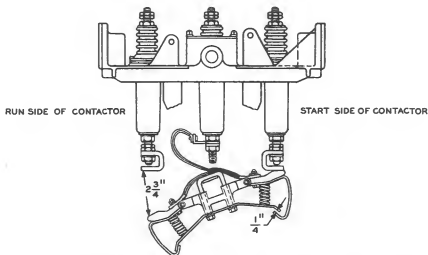

Fig. 12 — Contactor Mechanism on Form K22 Starter (in START Position)
- With the handle in the START position, there shall be approximately 2-3/4 inches between the tips of the stationary and movable RUN contacts and 1/4 inch between the compression spring support and the arcing horn, as shown in Fig. 12.
(2) Move the handle to the START position and adjust the setscrew on the START side to give the clearance of 2-3/4 inches between the tips shown in Fig. 12. Then adjust the pressure on the START contacts by setting the stationary contact to give the 1/4-inch clearance between the compression spring support and arcing horn.